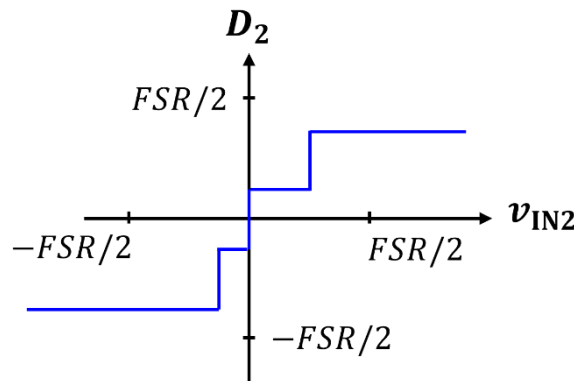

Figure 3: Non-ideal transfer characteristic of the ADC of stage 2.
- j. Repeat task I.i using the transfer characteristic for the ADC of *stage 2* shown in Figure 3 where the transition at $-FSR/4$ is shifted to $-FSR/8$.